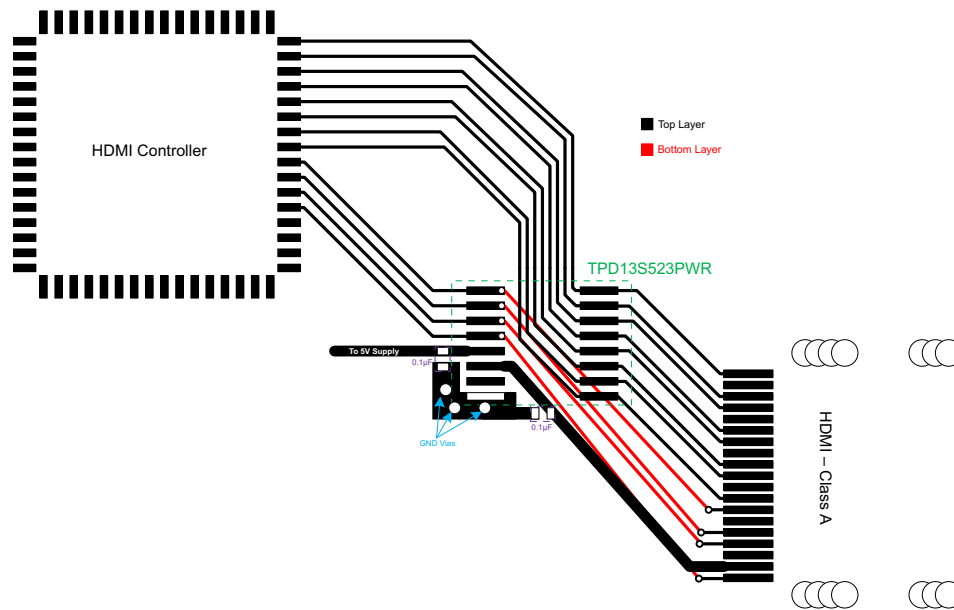

Figure 2. TPD13S523PWR Layout Example 12-Line HDMI Protection (Leave CTRL5 Open)
4. Leave the unused IO pins floating. If there is no UTILITY pin protection required, it is recommended to leave CTRL5 open (Figure 2). Connect the CEC, SCL, SDA, and HPD lines to CTRL1-CTRL4 pins.